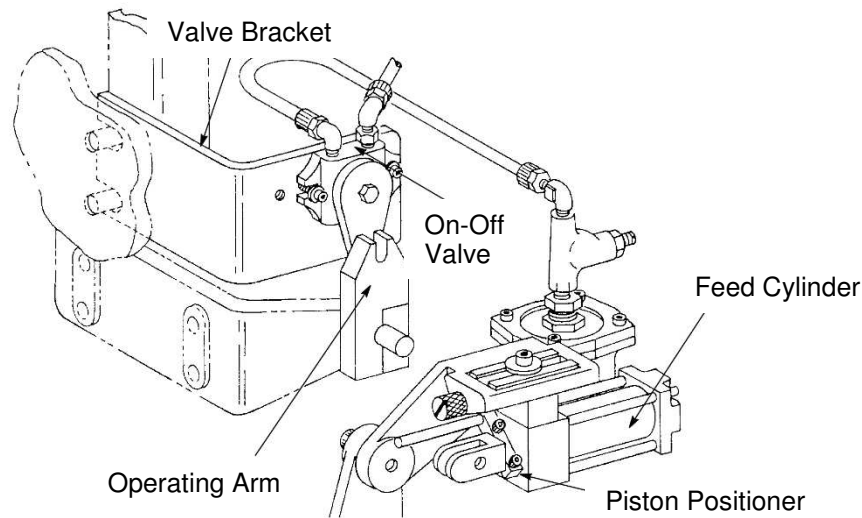

Figure 4
- (1) Loosen screw on top of pivot block.
- (2) Turn stroke forward limit adjustment screw **COUNTERCLOCKWISE** to move forward limit toward anvil, or **CLOCKWISE** to move forward limit away from anvil.
- (3) Tighten screw on top of pivot block.
b. Applicator with air feed systems (see Figure 4)
- (1) Loosen 3/4-in. hex nut slightly to allow pivot shaft to move in slot.
- (2) Loosen locknut on stroke length adjustment screw, and turn screw CLOCKWISE to SHORTEN stroke or COUNTERCLOCKWISE to LENGTHEN stroke. Tighten locknut.
- (3) Confirm that pivot shaft bushing is UP AGAINST stroke length adjustment screw, then tighten 3/4-in. hex nut. Repeat Step 5 to check for proper stroke length.
- b. Applicator with air feed systems (reference Figure 4)
- (1) With machine at rest and feed finger extended, loosen two screws holding positioner to feed cylinder shaft and move positioner in required direction on shaft.
- (2) Re-tighten screws.
- (3) Repeat Step 5 to check stroke length.